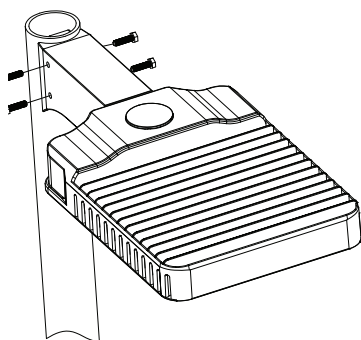

FIG. 4
- Tighten the four M8 screws on the straight arm and secure it to the adapter (see **FIG.4**).